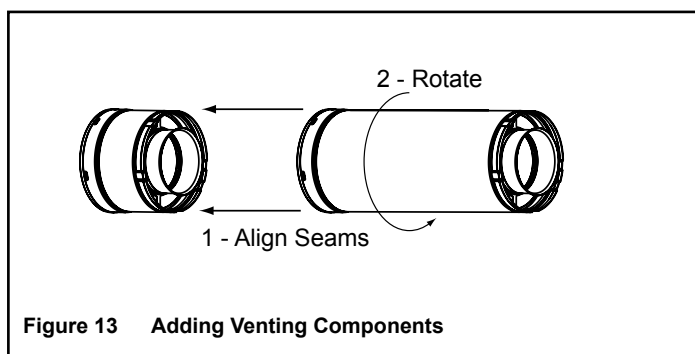

Figure 13 Adding Venting Components
Important Notice: Align the seams of the pipe sections to allow engagement. Rotate the vent component to lock into place. Use this procedure for all vent components. See Figure 13.
- Align the seam of the pipe and seam of collar to allow engagement. Rotate the vent component to lock into place. Use this procedure for all vent components. See Figure 13.